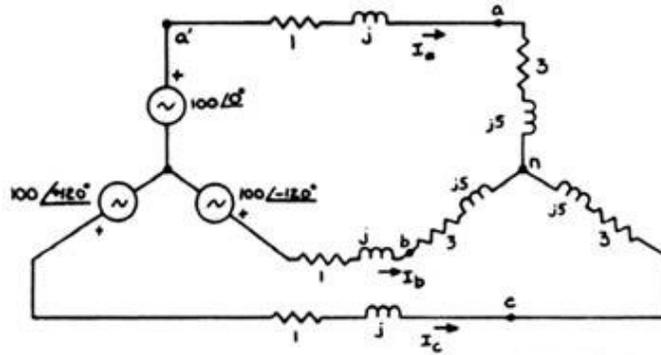

Figure A.1
A.1. Calculate the magnitude of a line current in the circuit shown in Figure A.1.